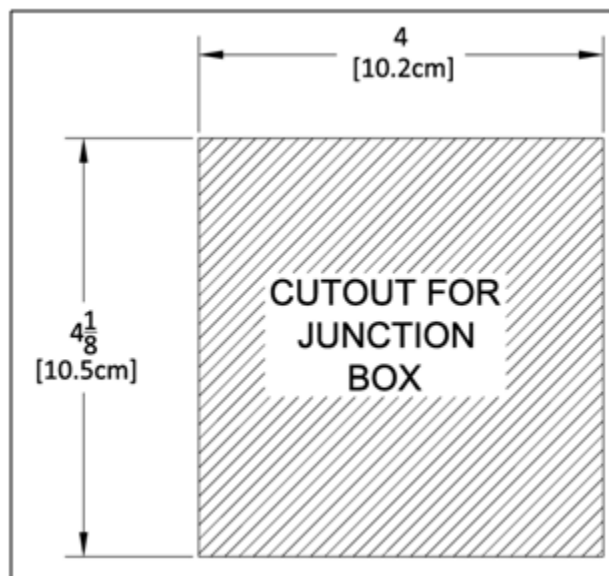

Figure 3: Analog Clock Cutout Template
2. Cut a $4\frac{1}{8}'' \times 4''$ (104.7mm x 101.6mm) hole in the drywall. (See Figure 3.)